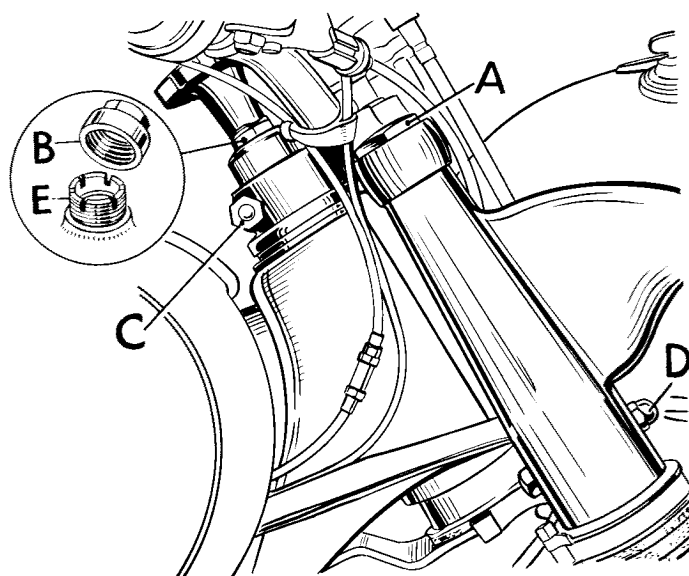

FIG. E.1. Steering head adjustment.
To adjust the steering, remove the damper rod then the top cap (B) Fig. E.1 to expose the adjuster sleeve (E).
the fork leg and slacken off the pinch bolt in the bottom fork yoke (D) Fig. E.1, page E.3.